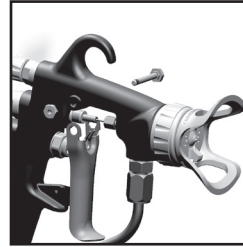

Fig. 13
1. Remove trigger and fluid tube assembly. (See fig 13 & 14)